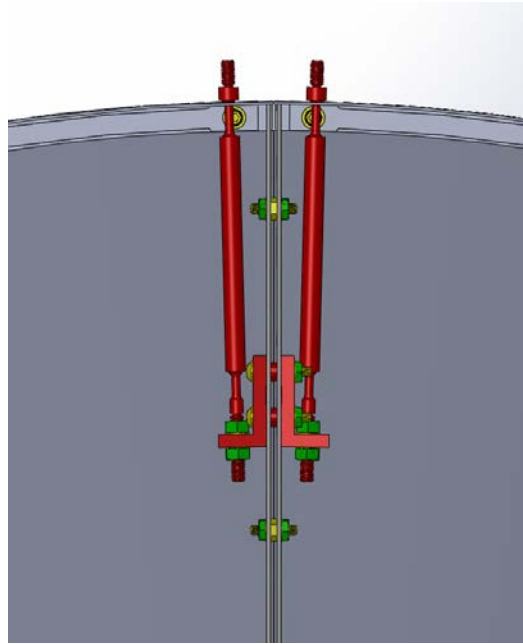

Figure 11: Insertion of Suspension Rod through L-bracket
18. Insert the bottom end of the Suspension Rod D1001970 through the clearance hole in the L-bracket in two places, as shown in Figure 11 and capture with one nut above and one nut below the L-bracket.